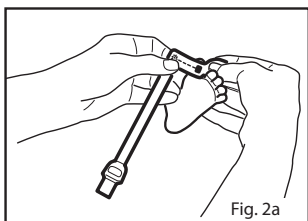

Fig. 2a
1. Refer to Fig. 2a. Direct the sensor cable so that it runs along the top of the foot. Position the detector on the fleshy pad of the great toe. Alternatively, the toe next to the great toe, or the thumb can be used (not shown).